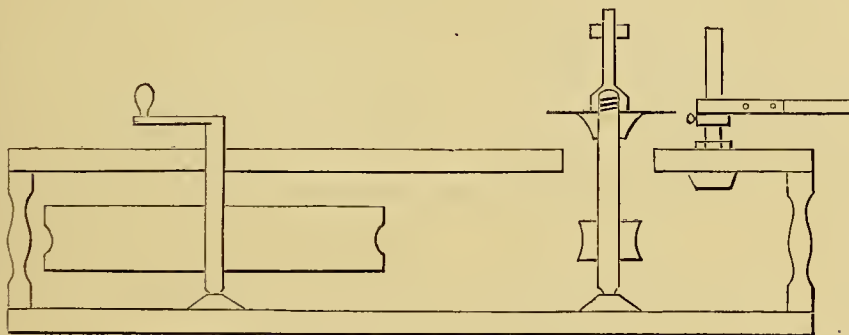

FIG. 4.—VERTICAL SECTION—FRONT VIEW.
through which pass pinching screws, Fig. 4. I think the figures will explain all other details. The whole is secured to the wooden lathe frame by five screws passing through the web of the T iron. It is so rigid that a friend of mine when first shown it said I could hang myself on it. It springs, however, a little, but I consider that an advantage; in fact, Holtzapffel, from whose lathes in the *Inventions* I got the idea, uses a spring between the support and the pulleys. The only disadvantage is that the lateral spring is considerable. This, however, I remedy by putting a $\frac{1}{4}$ inch stay between the top and the wall near, one end of which is secured to the upright with bolts, and the other to a flange screwed to a board nailed against the wall. If T iron a little stronger, say $1\frac{1}{4}$ inch, were used, I think it would not require this support.
We must now procure another spindle 18 inches long; one end must be turned to a point to rest on a bearing the same as the first one. On this drive a piece of mahogany or other hard wood, 4 inches in diameter and 2 inches thick; this must be placed so that when the spindle is in its place its centre must be level with the centre of the driving-wheel. On the other end of the spindle, drive another piece of similar dimensions, this must be about six inches from the first. When they are driven tightly to their places, the spindle must be placed in a lathe and the first be turned into a sheave, the second piece is to be turned perfectly true on its upper side, and will form a bed on which either the slitting disc or the lap will rest; the part of the spindle above this bed must be turned round to receive a screw-thread for about—say 3 inches, and the remainder turned $\frac{1}{8}$ of an inch smaller. Fig. 4 will make this clear. At M, Fig. 5, a bar of iron must be firmly fixed to stand perpendicular with the table. This may be fixed firmly by having a screw-thread cut at the lower end and a nut and washer screwed on to the rod a sufficient distance to allow the rod to pass through the table, and then another nut and washer screwed on it on the under side of the table, gripping the table between the nuts. This, or any other device, may be adopted to give firmness to the rod. We now want a link with a hole at each end, as B, Fig. 5; be careful that the centre of the holes are the same distance as the centre of the spindle and steadying rod. A thumb-screw, as at K, Fig. 5, will fix the link firmly in its place. We will suppose our lap to be made—how to make it will appear as we go on; so we will proceed to put our machine together as far as we can. Our driving-wheel is easily fixed.
LEX.—The following furnish replies to your queries with reference to Spellier's Electric Clock. I do not give your questions *in extenso*, as they are sufficiently indicated by my replies: (1) The figures accompanying a description of this clock, given in page 133, Vol. III., were taken from the "Electrical Review," and reproduced for AMATEUR WORK. The scale was not given in the original. I suggest that the parts are shown three-quarters size of a small model. (2) As Mr. Spellier directs an insulating substance to be used in separating the two springs at the bottom of the pendulum, this should evidently be made of metal, presumably brass. The only "bob" used is the weight *x* on the lever *u*, and this controls the speed. (3) I would suggest a small model of, say, one-fourth larger size than that shown in illustration, Figs. 4 and 5. (4) In Fig. 4 *b* appears to be a set screw fastening a thin spring to top part of pendulum, by which the pendulum is suspended. *m* is evidently the spindle, which carries a geared wheel *o*, and this is worked by a worm wheel behind the escapement (not shown in sketch). I only suppose this. (5) The bar under *p* supports the pivot of this lever and the arm *r*. (6 and 7) I take it that Figs. 1 and 2 give exact sizes of bobbins, escape wheel, and cogs, together with angles of the same. In such a small model, with $\frac{1}{2}$ inch soft iron cores, No. 28 silk-covered wire, six layers on each hobbin. No. 20 for leading wires and line wires. (8 and 9) The pivot of *u* is at *r*. Two projecting pins working in holes, form the pivots or axle. To ensure perfect contact, a platinum pin is inserted in the outer projecting pivot at *r*, and against the tip of this pin is made to press a spring, secured to the support of the pivots at *r*. With this help I hope you will be better able to understand the figures than myself.—G. E.